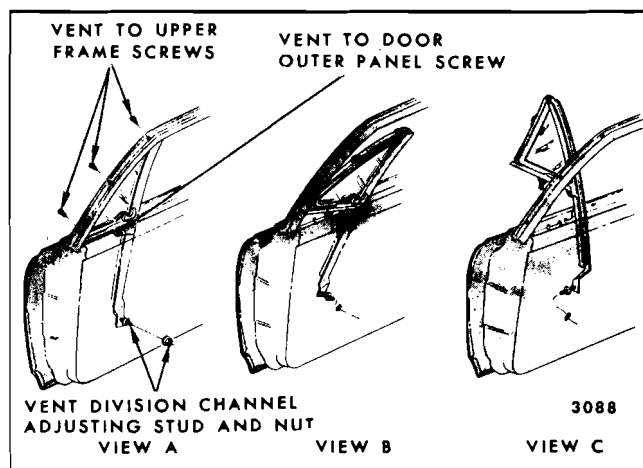

Fig. 6-74—Front Door Ventilator Removal
3. Lower door window and remove ventilator division channel lower adjusting stud nut and ventilator to door outer panel attaching screw (View "A" in Figure 6-74).
4. Remove ventilator to door upper frame attaching screws (View "A", in Figure 6-74).
5. Lift ventilator rearward and upward until lower forward corner of assembly is free of door upper frame (View "B" in Figure 6-74).
6. Rotate ventilator assembly in an outboard movement and remove unit outboard of door upper frame (View "C" in Figure 6-74).